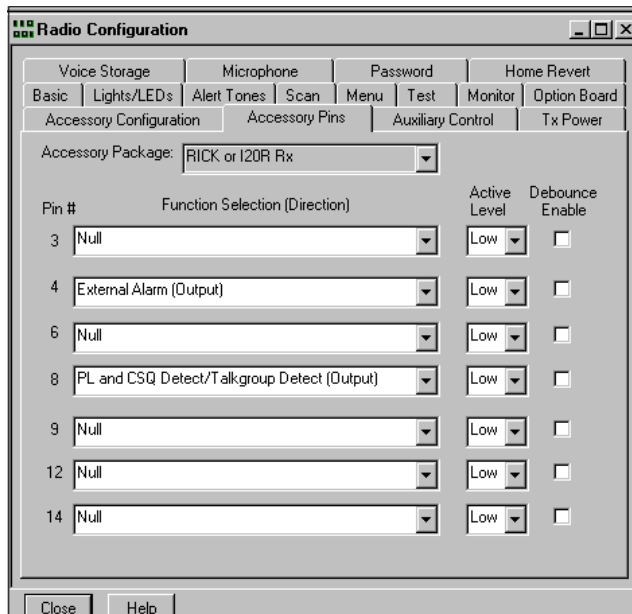

Figure 10-2. Radio Configuration, Accessory Pins, Receive Radio
10. Select “RICK or I20R Rx”. Verify that pin 8 is “PL and CSQ Detect/Talkgroup Detect (Output)”, Active Level “Low”. Your screen should appear similar to Figure 10-2.